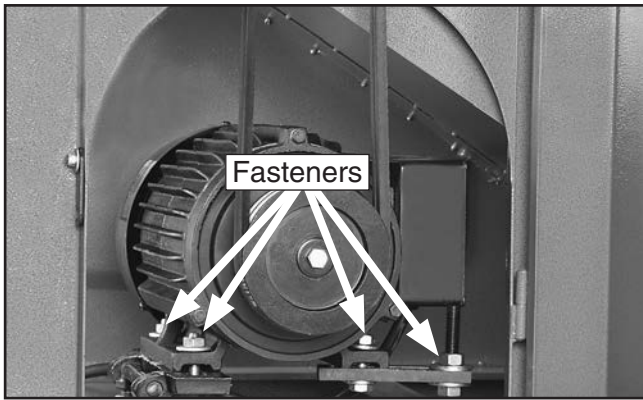

Figure 63. Motor mount fasteners for adjusting pulley alignment.
4. Loosen the fasteners that hold the motor to the brackets shown in **Figure 63**.